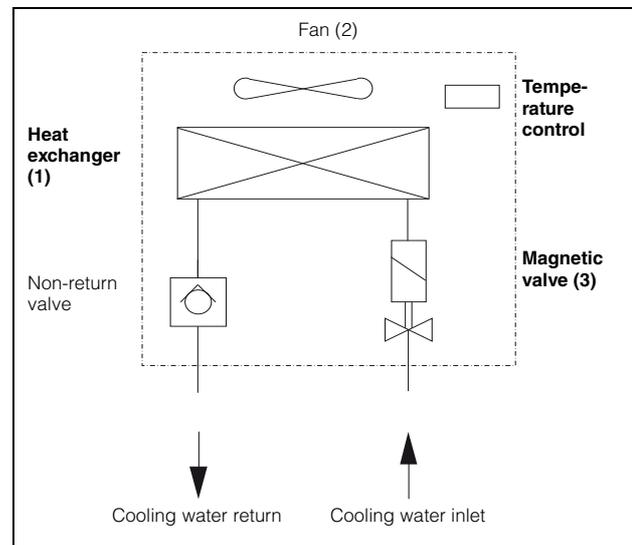

Fig. 2: Air/water heat exchanger
The air/water heat exchanger comprises three main components (cf. fig. 2): Heat exchanger package (1), fan (2) and the magnetic valve (3) connected with each other using pipes.